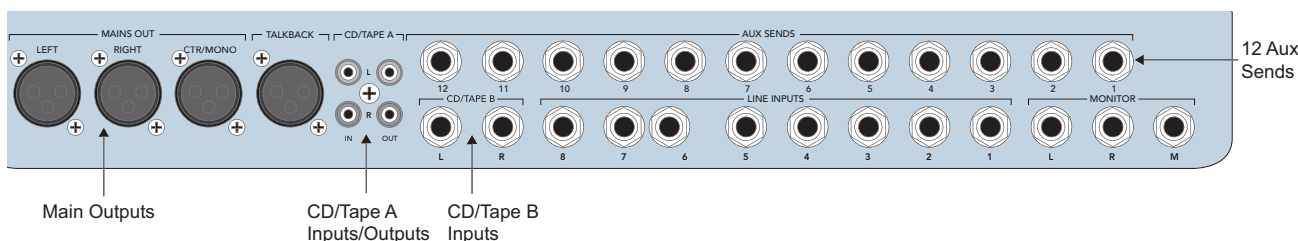

Figure 2-1 Mains and Aux Sends Outputs
1. Plug in a pair of amps/speakers into the **MAINS OUT LEFT** and **RIGHT** XLR connectors (Figure 2-1).
1. Connect the CD player into CD/TAPE A or B (Figure 2-1).